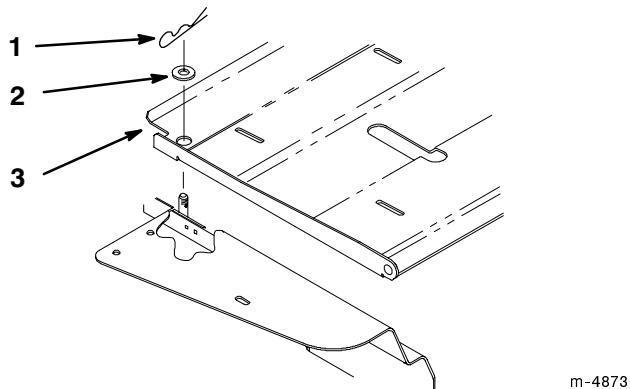

Figure 16
1. To adjust, remove the hairpin cotter and washer, and tip seat forward (Fig. 16).
3. Lower seat and secure with washer and hairpin cotter (Fig. 16).